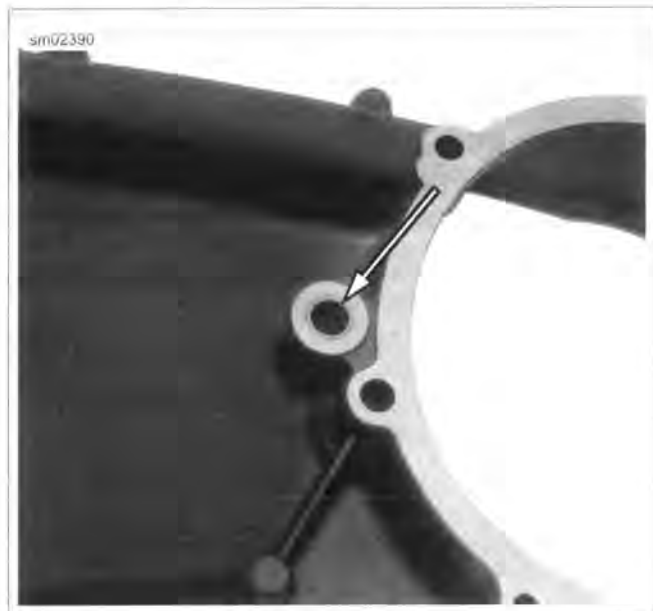

Figure 5-23. Shifter Shaft Bushing
1. See Figure 5-23. Press out old bushing from clutch side of housing. Inspect the bushing bore to verify that it is clean and smooth.